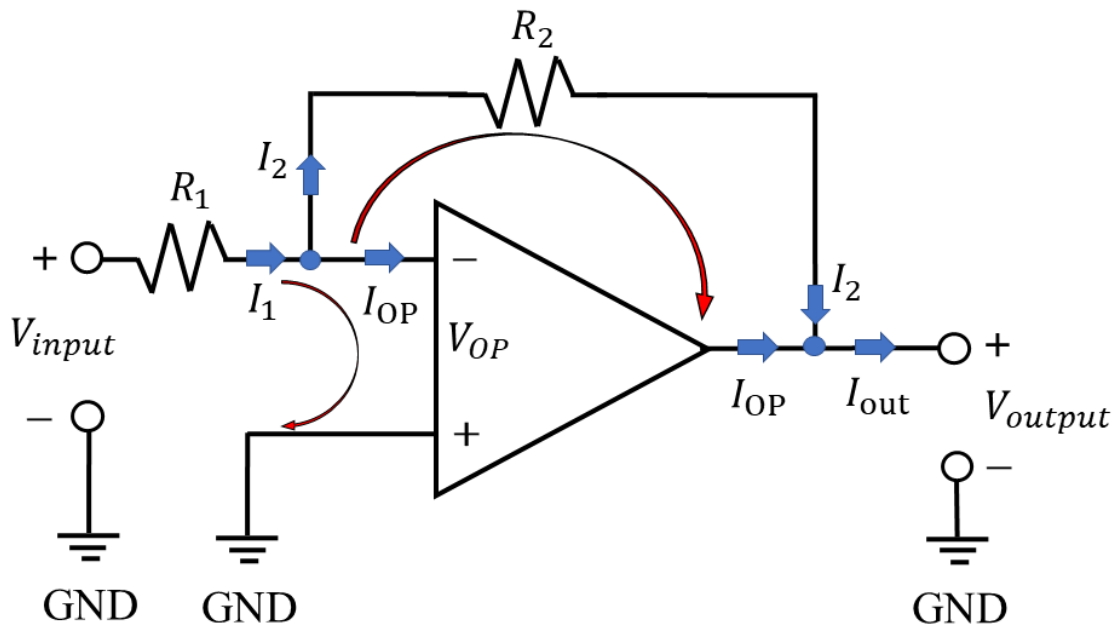

Figure 3.3. A circuit diagram example for inverting operational amplifier.
A typical inverting circuit with an operational amplifier is shown in **Fig. 3.3**. GND represents the ground of circuit, which provides the zero-voltage reference. V_{input} and V_{output} indicate the input voltage and the resulting output voltage, respectively. Two constant resistances R_1 and R_2 and their passing current I_1 and I_2 are also marked on the diagram. We assume the operational amplifier creates a potential difference V_{op} with an inflow current I_{op} . Readers should be noted that both the V_{op} and the I_{op} **are not from external power supply**. We can draw two imaginary loops, and two nodes at the entrance and the exit of operational amplifier. The first loop contains the input voltage V_{input} , the resistance R_1 , and the potential difference of operational amplifier V_{OP} . Apply *KCL* to the left node and *KVL* to the left loop, we can obtain the following formula, respectively:
If we add a low pass filter to the output voltage V_{output} in **Fig. 3.3**, we can produce a new cutoff frequency which can be estimated by formula (28):